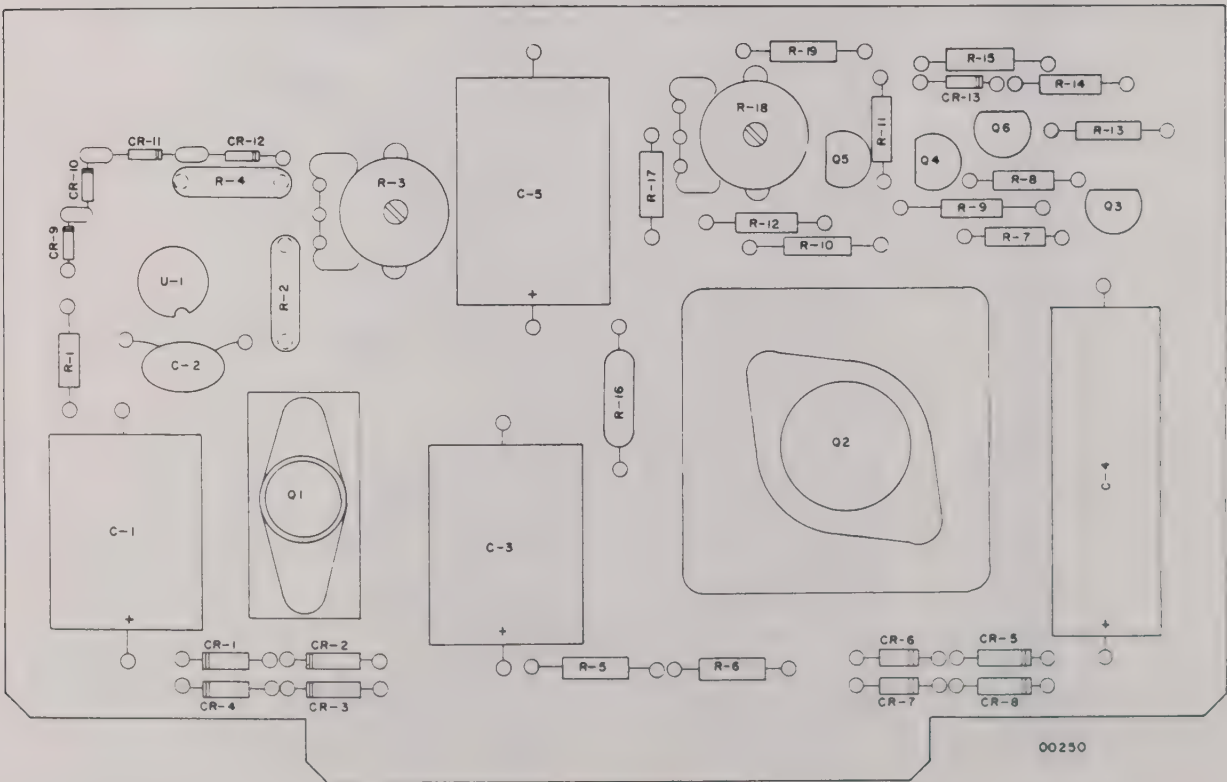

Figure 6-1. Model 7001 Power Supply Card 1, Component Location Diagram
6.2 This section contains a complete listing of electronic parts for the Model 7001. Table 6-1 is a list of Federal Supply Code of Manufacturers (FSCM) for replaceable parts. Parts list tables 6-2 through 6-11 are arranged alpha-numerically by reference designation. Component location diagrams, figures 6-1 through 6-8, are provided to facilitate maintenance.